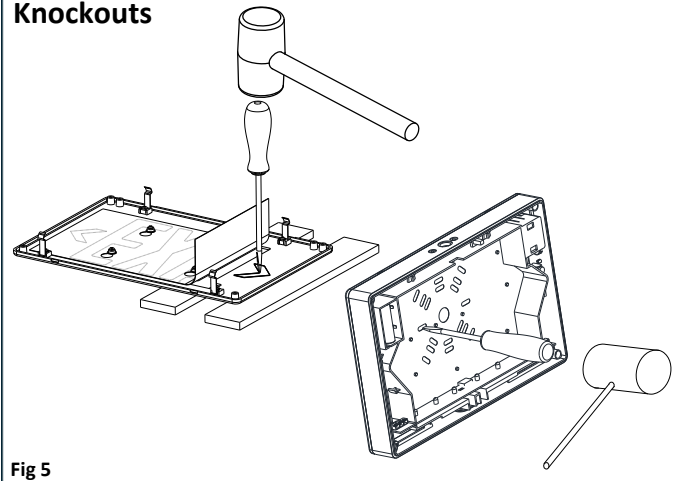

Fig 5
4. Remove mounting, conduit and chevron knockouts as needed (Fig 5). **CAUTION:** Carefully remove the knockouts so as not to cause damage to the surface